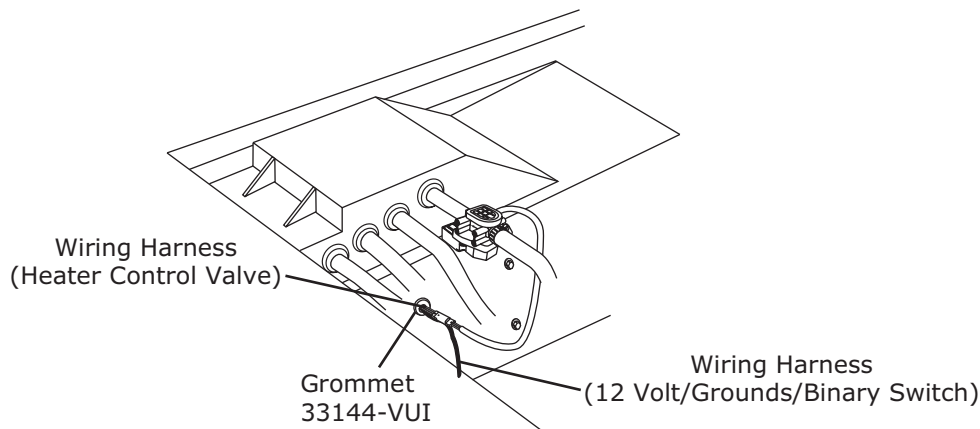

Figure 13
2. Route A/C wires (12 volt/grounds/binary switch/heater valve) through 3/8" grommet as shown in Figure 13, below.